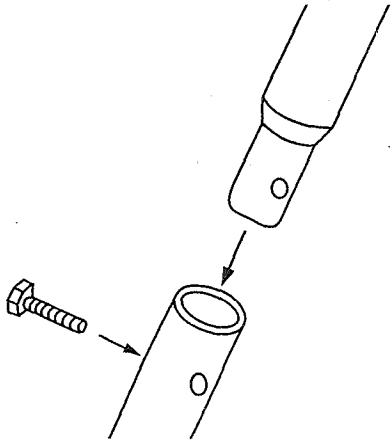

FIG.1
1. Screw out the bolt which located in either piece of handle (see fig.1)